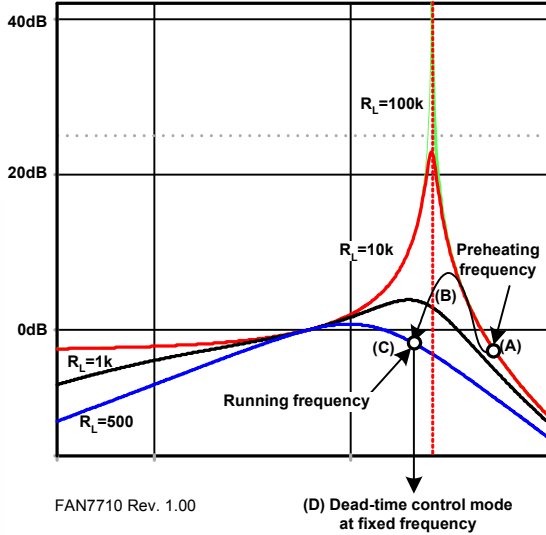

Figure 21. LCC Transfer Function in Terms of Lamp Impedance
Before the lamp is ignited, the lamp impedance is very high. Once the lamp is turned on, the lamp impedance significantly decreases. Since the resonant peak is very high due to the high-resistance of the lamp at the instant of turning on the lamp, the lamp must be driven at higher frequency than the resonant frequency, shown as (A) in Figure 21. In this mode, the current supplied by the inverter mainly flows through C_P . C_P connects both filaments and makes the current path to ground. As a result, the current warms up the filament for easy ignition. The amount of the current can be adjusted by controlling the oscillation frequency or changing the capacitance of C_P . The driving frequency, f_{PRE} , is called preheating frequency and is derived by:
After the warm-up, the FAN7710 decreases the frequency, shown as (B) of Figure 21. This action increases the voltage of the lamp and helps the fluorescent lamp ignite. The ignition frequency is described as a function of CPH voltage, as follows:
Finally, the lamp is driven at a fixed frequency by an external resistor, R_T , shown as (C) in Figure 21. If V_{DD} is higher than $V_{DDTH(ST+)}$ and UVLO is released, the voltage of the R_T pin is regulated to 4V. This voltage adjusts the oscillator's control current according to the resistance of R_T . Because this current and an internal capacitor set the oscillation frequency, the FAN7710 does not need any external capacitors.
The oscillation frequency is not changed even in the active ZVS mode, shown as (D) in Figure 21. The dead time is varied according to resonant tank characteristics.